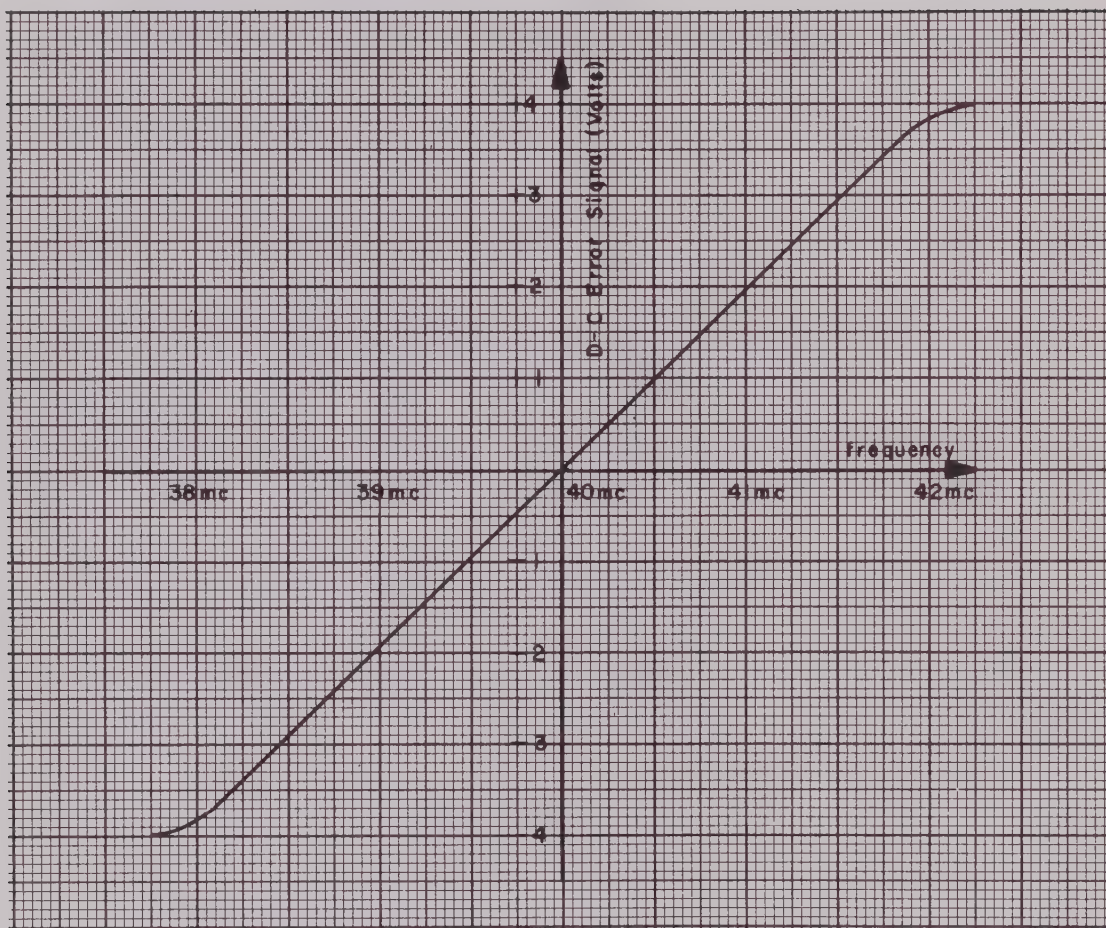

Figure 4-24. Afc-I-f Amplifier D-c Error Signal Output as a Function of Input Frequency
s. Vary the output frequency of the calibrated signal generator over the range from 38.25 mc to 41.75 mc, maintaining its output level constant at 50,000 microvolts. With the vtvm, adjusted for +dc, connected to P1051, the d-c error signal output as a function of frequency shown in figure 4-24 should be obtained.